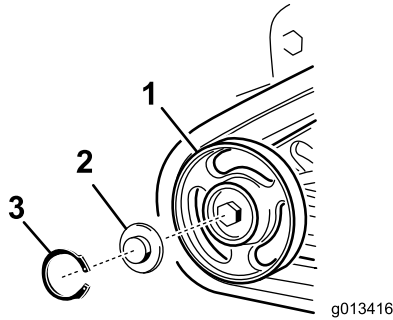

Figure 49
4. Remove the snap ring and cap from a road wheel (Figure 49).
5. Check the grease under the cap and around the gasket (Figure 49). If it is dirty, gritty, or depleted, clean out all of the grease, replace the gasket, and add new grease.
7. Place the greased road wheel cap over the bolt head (Figure 49).
8. Secure the road wheel cap with the snap ring (Figure 49).